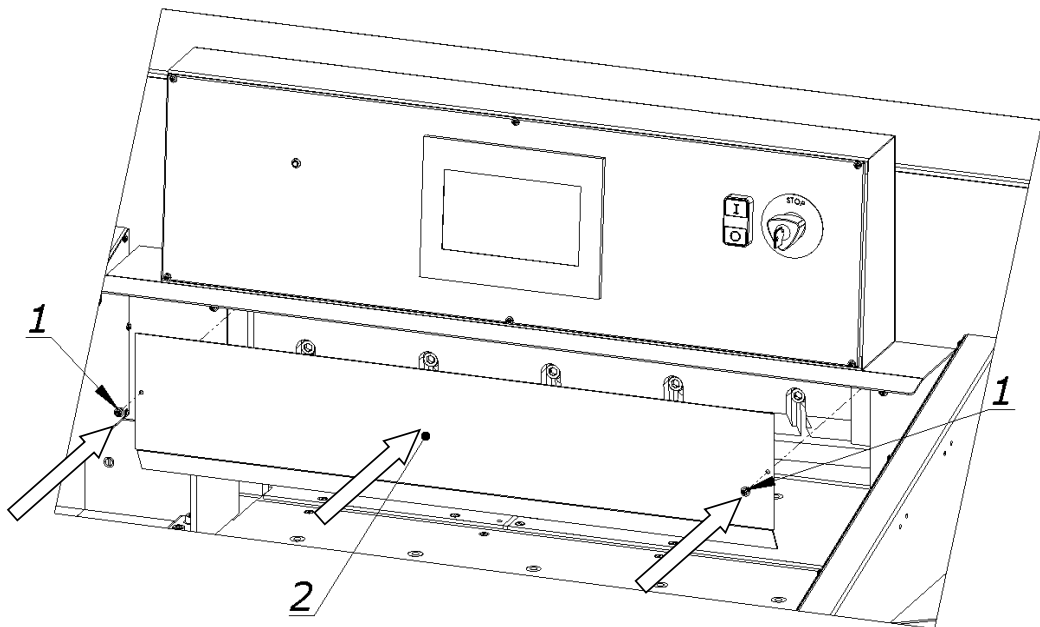

Figure 36.
8.1.2.23 Fix the cover 2 with the screws 1 (fig. 36)